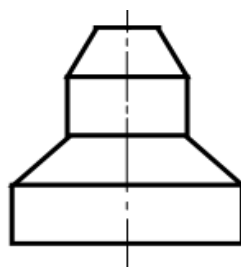

Figure Q6C. Schematic of part to be manufactured
C) Company CU Berhad has the option to manufacture 50 pieces of part as shown in Figure Q6C by either machining or metal forming. By considering **TWO (2)** sustainability aspects, compare between the two processes and suggest which process the company should opt.